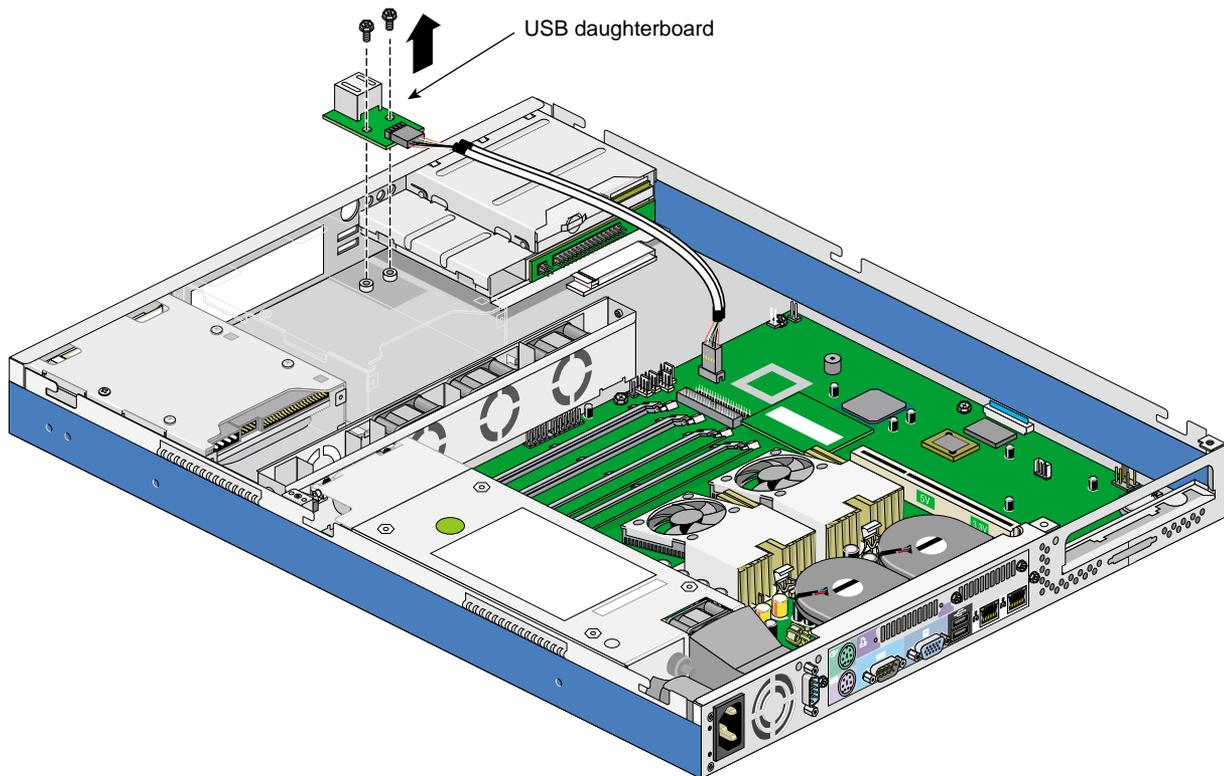

Figure 2-21 Removing the USB Daughterboard Cable Module
3. Remove two screws from the USB daughterboard cable module as shown in Figure 2-21.